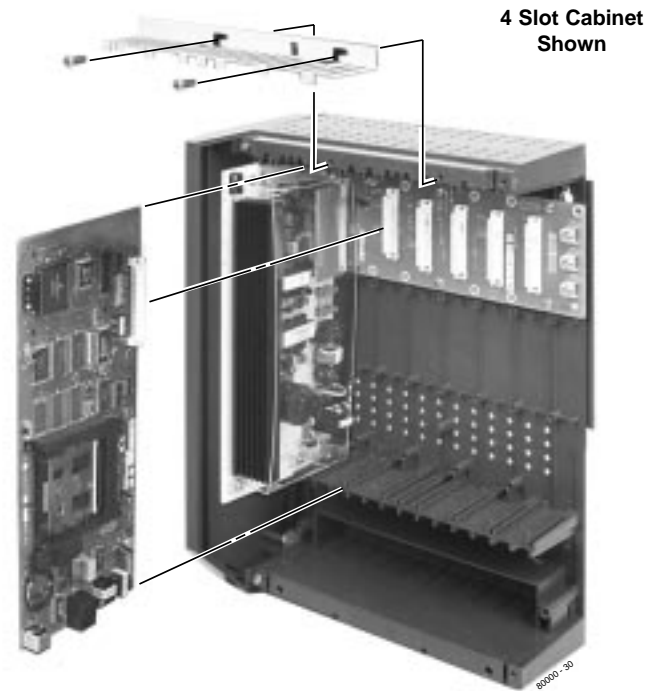

Figure 2-6 INSTALLING THE CPU
3. Plug the CPU into slot CN0 (see Figure 2-6).
Digital Station (16DSTU) PCB (Figures 2-6 and 2-7)